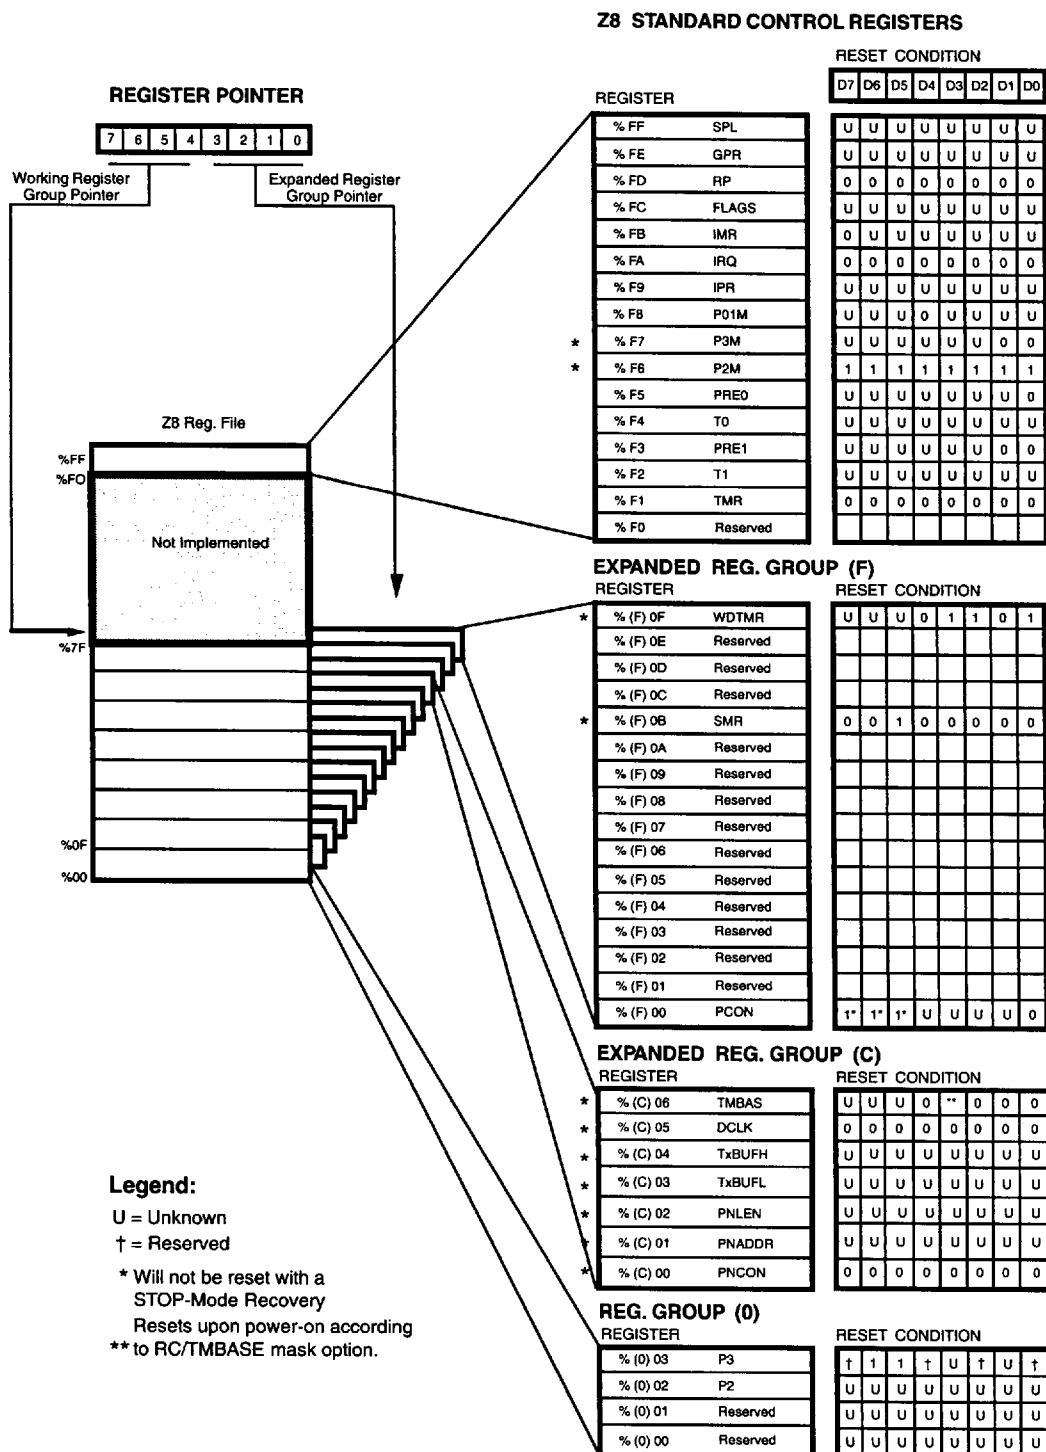

Figure 11. Expanded Register File Architecture
**Expanded Register File.** The register file has been expanded to allow for additional system control registers and for mapping of additional peripheral devices and input/output ports into the register address area. The Z8 register address space R0 through R15 is implemented as 16 groups of 16 registers per group. These register groups are known as the ERF (Expanded Register File). Bits 3-0 of the Register Pointer (RP) select the active ERF group. Bits 7-4 of register RP select the working register group (Figure 11). Three system configuration registers reside in the Expanded Register File address space in Bank F, while six PN modulator registers reside in Bank C. The rest of the Expanded Register addressing space is not physically implemented and is open for future expansion. To write to the ERF, the upper nibble of the RP must be zero. To write to the rest of the register file, the lower nibble must be zero.